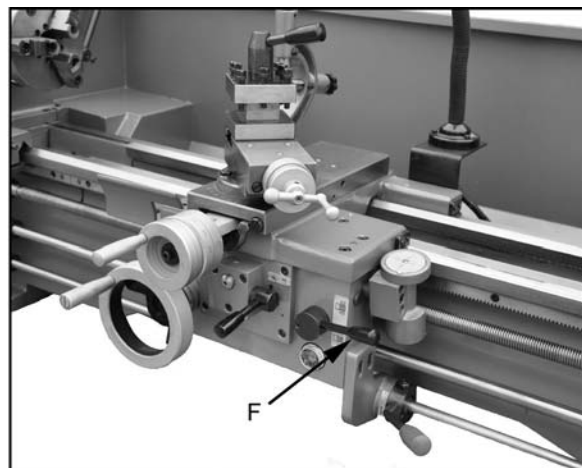

Figure 24
3. Engage the half nut lever (F, Fig. 24).